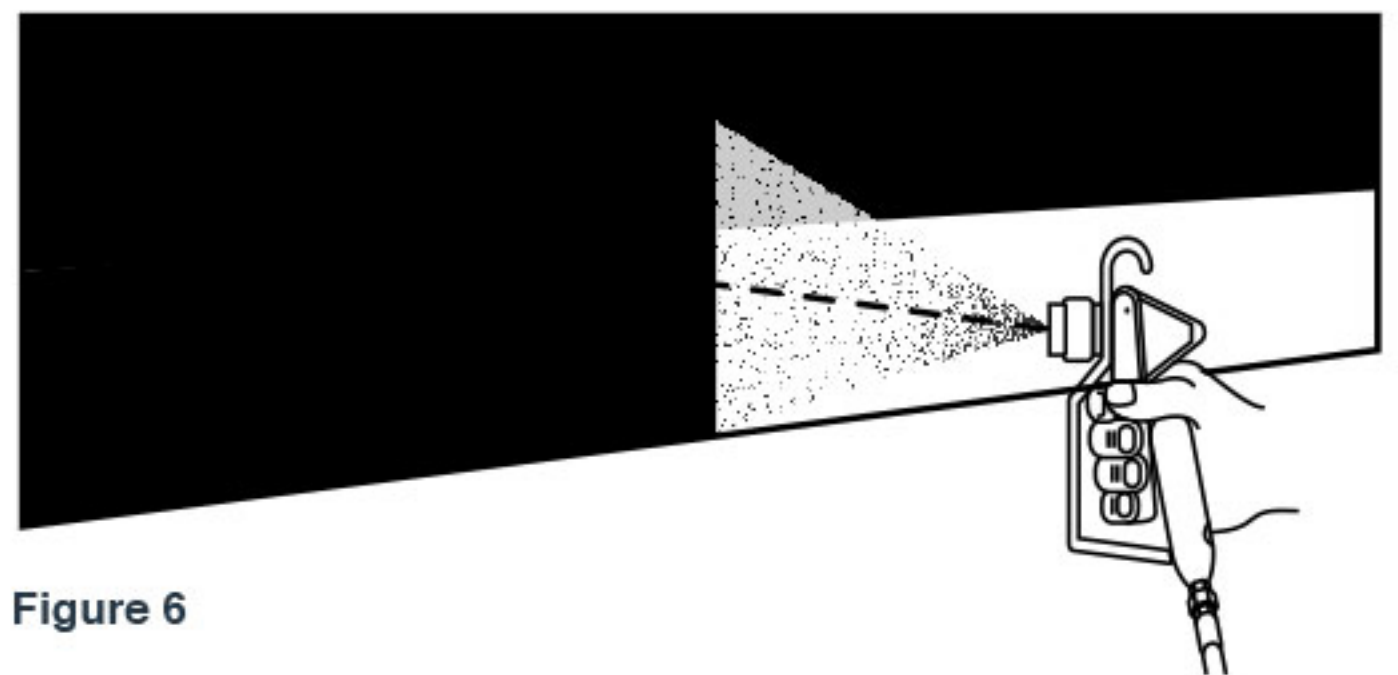

Figure 6
6. Overlap the previous pass by half the width of the spray pattern. Aim toward the bottom of the previous pass. Spray with uniform strokes from left to right to left, holding stroke speed, distance, lapping and triggering as uniform as possible. (See Figure 6)